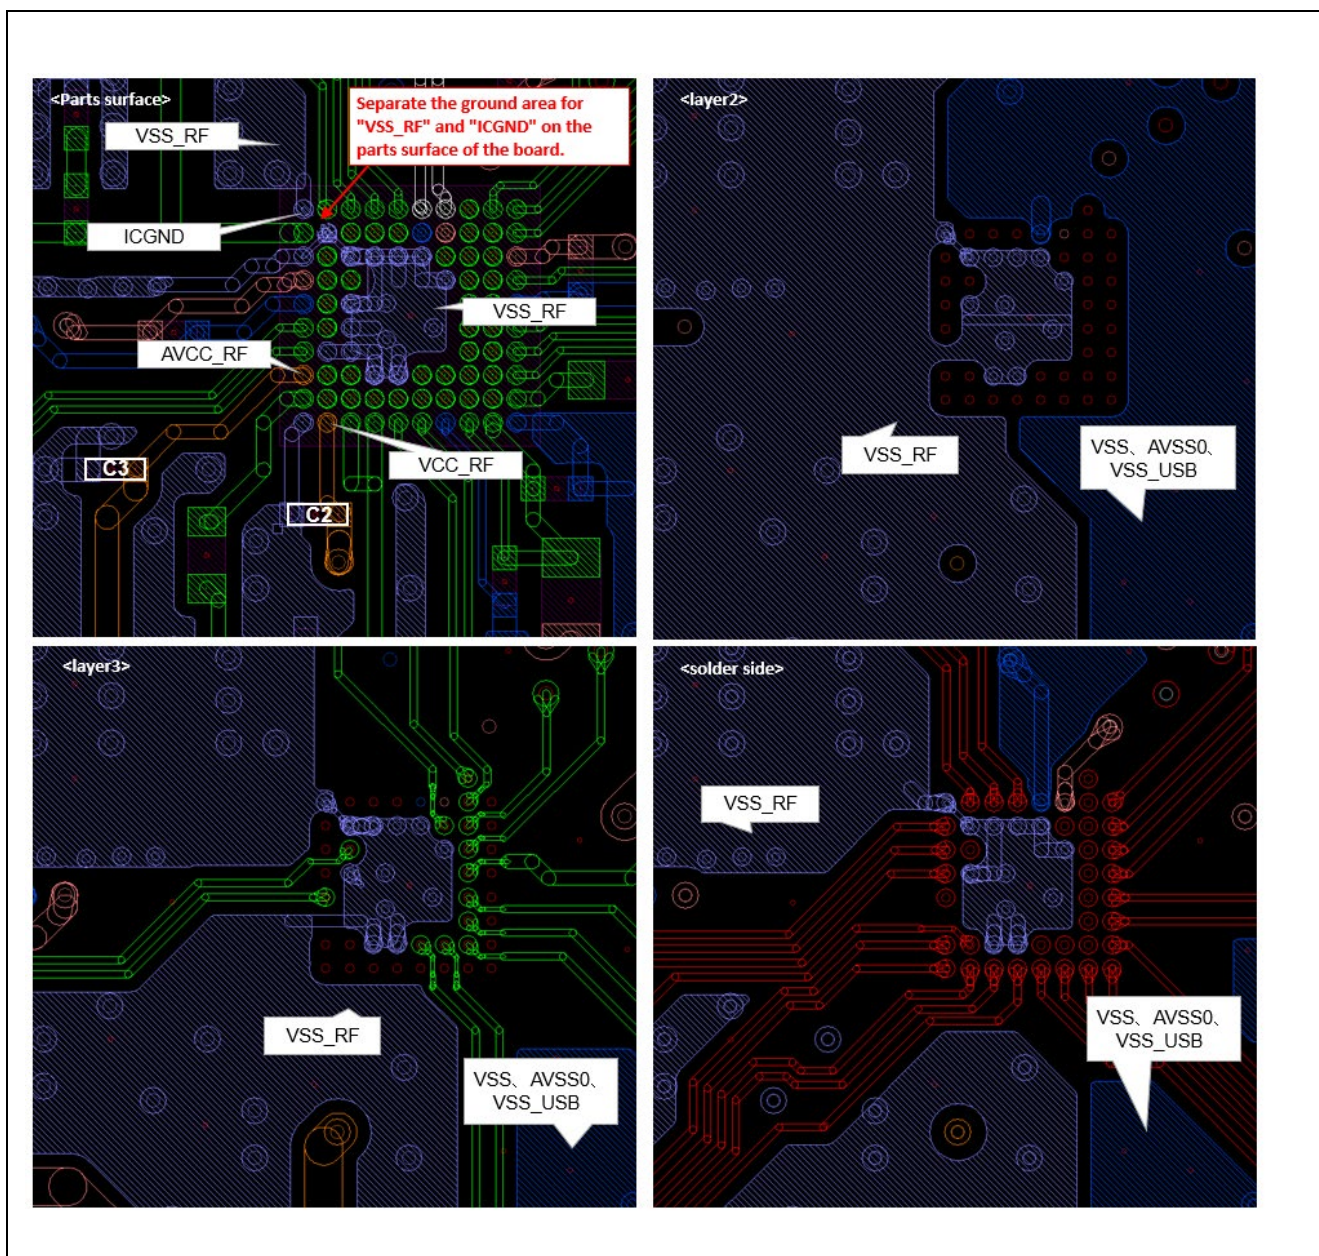

Figure 3-12 Example of the ground pattern
- Under layer of IC Package should be "VSS_RF" solid ground. Make the ground patterns of "VSS_RF" low impedance. Not pass other power, and ground lines through the reference ground to avoid noise effects. And not separate the reference ground pattern. It is recommended to place vias as shown in "Figure 3-12 Example of the ground pattern".
Figure 3-12 shows an example of the ground pattern.